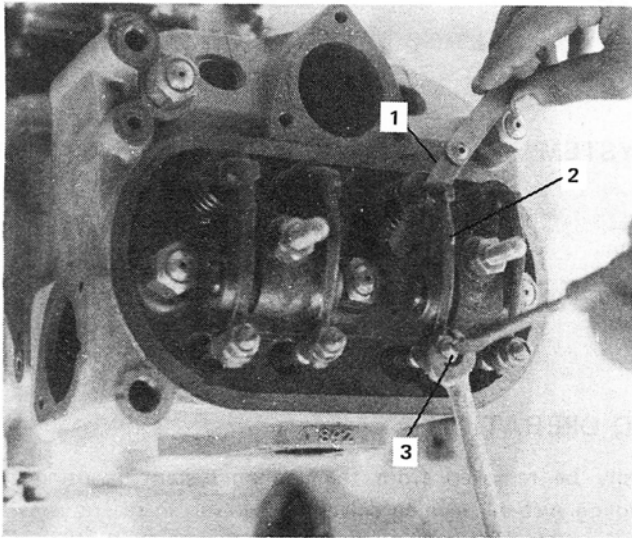

Figure 40
36. Rotate the engine and set the valve lash, Figure 40. The clearance for both the intake and exhaust valves should be as specified on page 28. The adjustment should be made while the engine is cool.